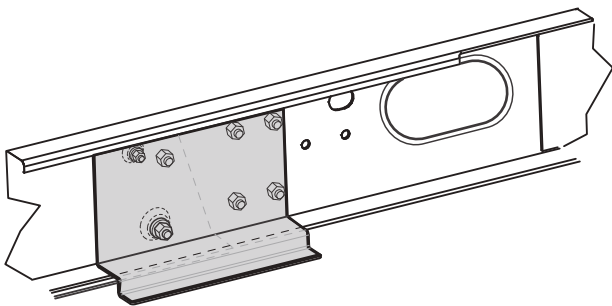

Fig. 19
- Suitable for caravans up to 1900 kg - 2000 kg and an AL-KO M chassis with adjustable beams (Fig. 19).